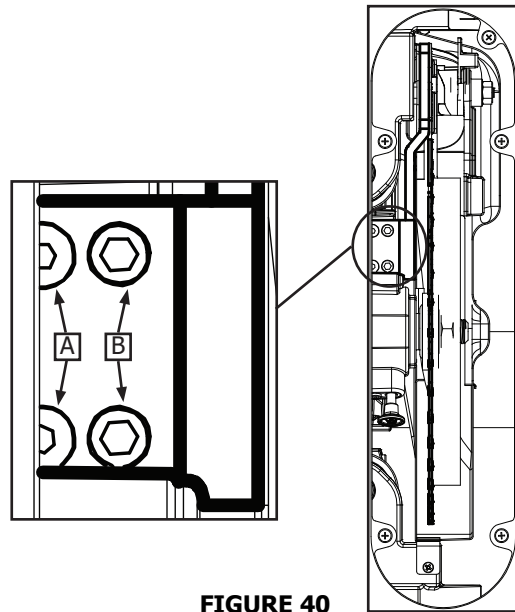

FIGURE 40
5. To adjust parallel alignment use the two set screws (B) shown in Figure 40. Clockwise: adjust riving knife to the right. Counter-clockwise: adjust riving knife to the left. If needed, use the set screws (D) to align the riving knife with blade face and the square.